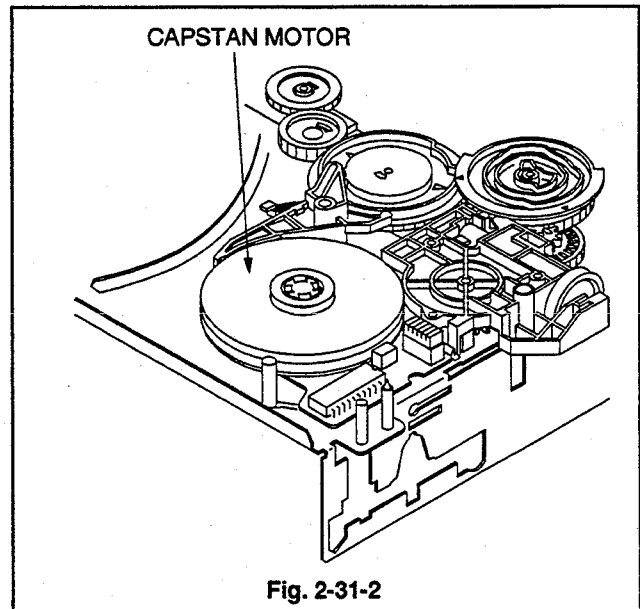

Fig. 2-31-2
1. Set the CAPSTAN MOTOR in the position shown in Fig. 2-31-2 to install it.